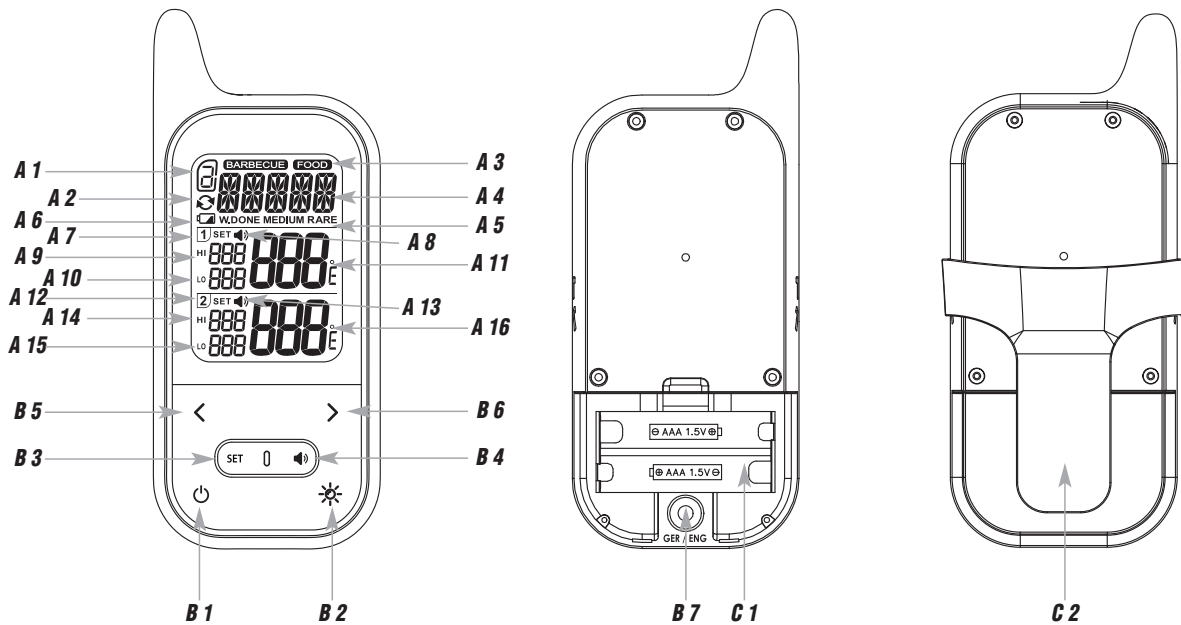

Fig. 2
**Küchen-Chef TWIN – Wireless BBQ meat thermometer****Housing****C 1:** Battery compartment**C 2:** Support**5.2 Probe (Fig. 2)****D 1:** Probe**D 2:** Cable**D 3:** Probe connector**5.3 Transmitter (Fig. 3)****Display****E 1:** Channel number 1 + 2**E 2:** Circle symbol for the alternating channel**E 3:** Transmission symbol**E 4:** Temperature °C**Buttons****F 1:** **RESYNC** button**F 2:** **ON/OFF** button**Housing****G 1:** Transmission LED**G 2:** Battery compartment (screwed)**G 3:** Support**G 4:** Jack for temperature probe on channel 1**G 5:** Jack for temperature probe on channel 2**6. Getting started**